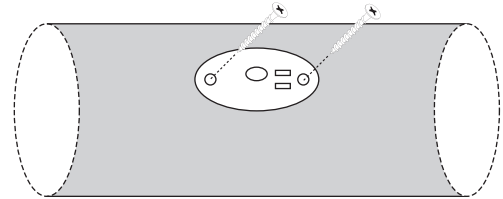

Figure 1a
- 3) Mount the flange on the duct with screws (not included), Figure 1a.